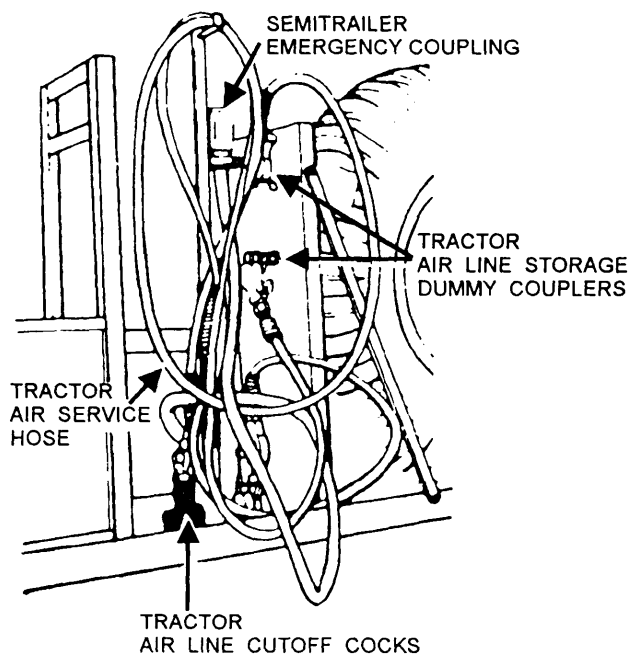

Figure 7-19.—Air line storage dummy couplers.
- Disconnect the air lines from the trailer. Connect the air line glad hands to dummy couplers at the back of the tractor cab (fig. 7-19).